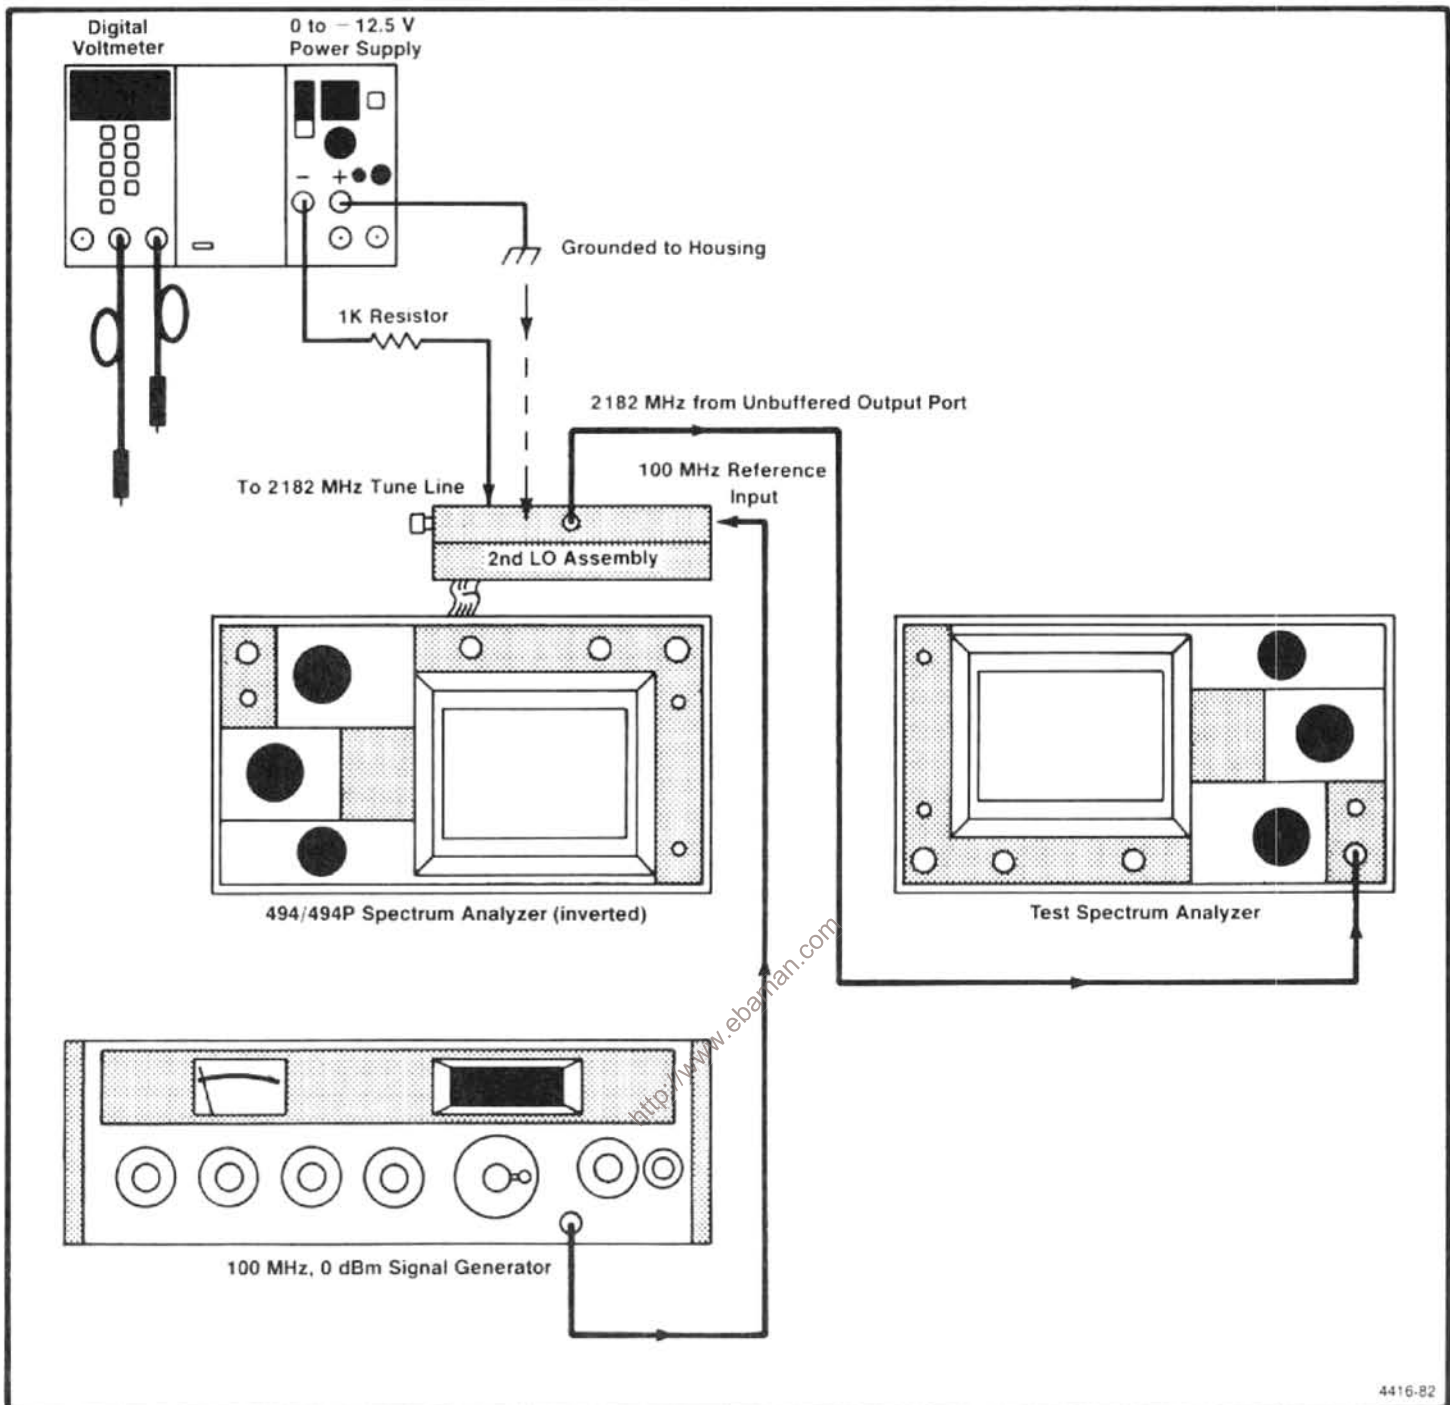

Figure 6-19. Test equipment setup for calibrating the oscillator section of the 2182 MHz Phase Locked 2nd LO.
a. Test equipment setup is shown in Figure 6-19. Turn the POWER off. Place the 494/494P Spectrum Analyzer upside down so the RF deck is exposed. Use a 5/16 inch wrench to loosen and remove the two semi-rigid cable connections to the assembly. Remove the flexible coaxial cable connection to the 100 MHz input.